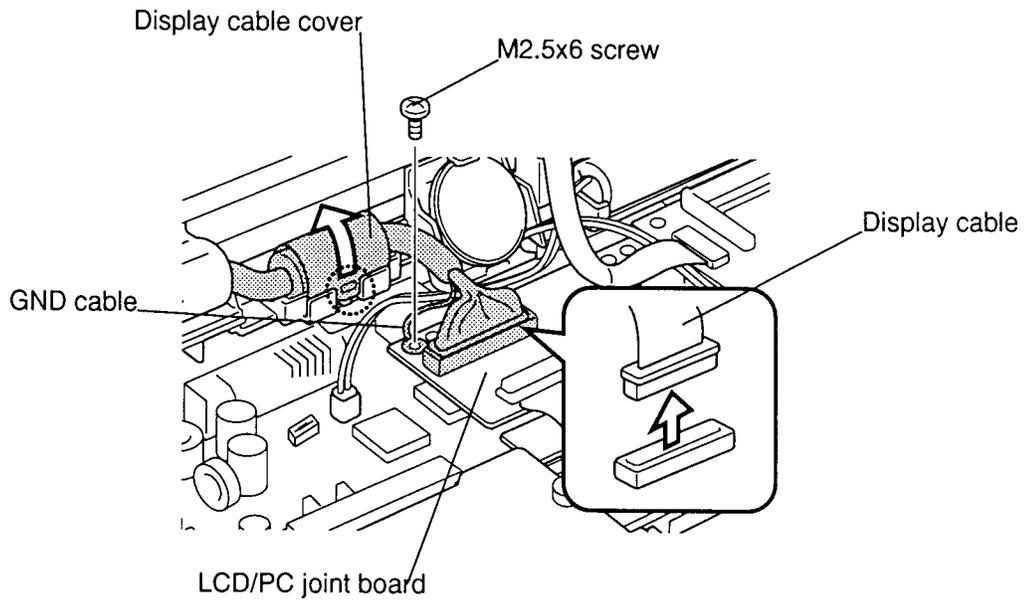

Figure 4-22 Disconnecting the display cable
5. Remove the left side M2.5x6 screw on the **LCD/PC card joint board** (figure 4-22).
6. Lift the **display cable cover** and disconnect the **display cable** from the connector on the LCD/PC card joint board (figure 4-22).
2. Connect the **display cable** to the connector on the **LCD/PC board** and replace the **display cable cover** (figure 4-22).
3. Secure the **GND cable** from the LCD on the LCD/PC board with an **M2.5x6 screw** (figure 4-22).